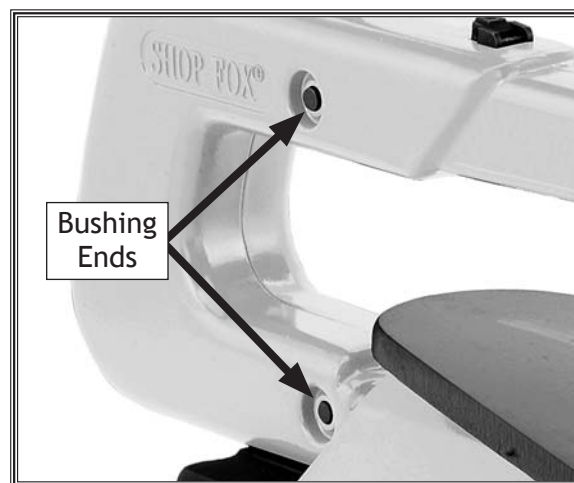

Figure 16. Plastic caps removed to expose the arm bushing ends.
2. Remove the plastic caps over the bushings to expose their ends (see **Figure 16**).